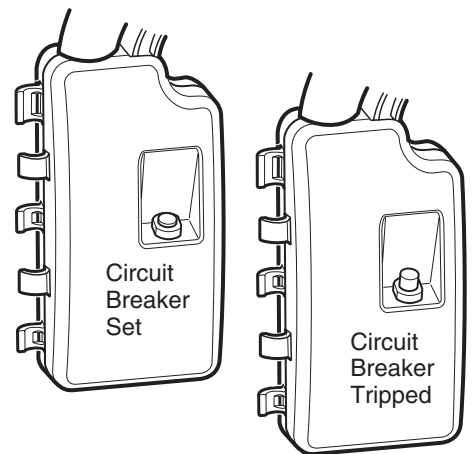

Figure 10 - Circuit Breaker Button
This tiller is equipped with a circuit breaker located in the top of the switch housing (see Figure 10). The circuit breaker provides over-current protection to the tiller motor should the tines become jammed or locked by a stone, root, or other obstruction.
4. Press the reset button on the breaker back into the housing (see Figure 10). The button should stay depressed when released. Plug the tiller power cord back into the extension cord.